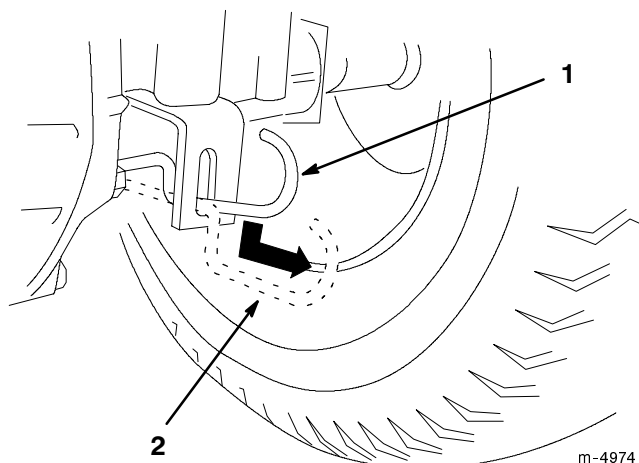

Figure 12
2. Pull the drive control out to the “PUSH” position. This disengages the drive system and allows the wheels to turn freely (Fig. 12).
1. Push the drive control in to the “OPERATE” position. This engages the drive system (Fig. 12).